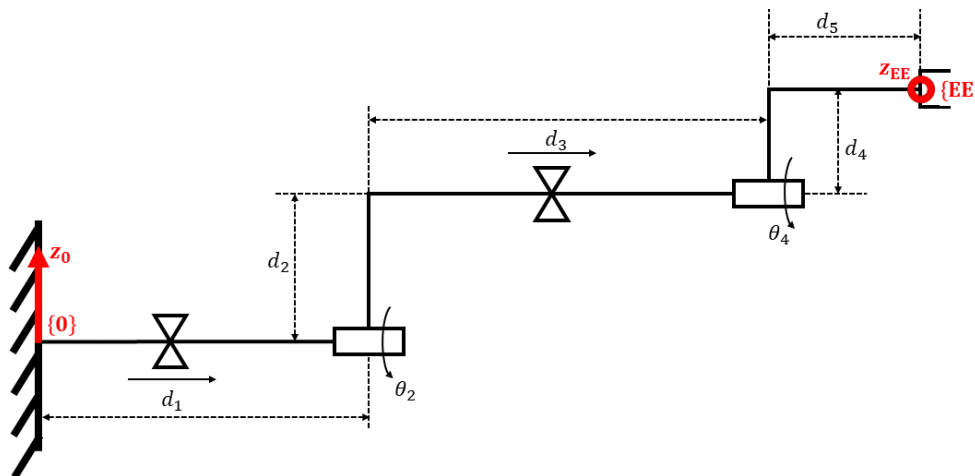

Figure 1.2: Schematic of a PRPR robot
b)* Figure 1.2 shows a robot having its z_{EE} axis pointing outside the paper plane. Write the Denavit-Hartenberg table of the robot. Ensure maximal number of zeros in the table. Write the values for the rotational joint parameters as seen in the drawn configuration.